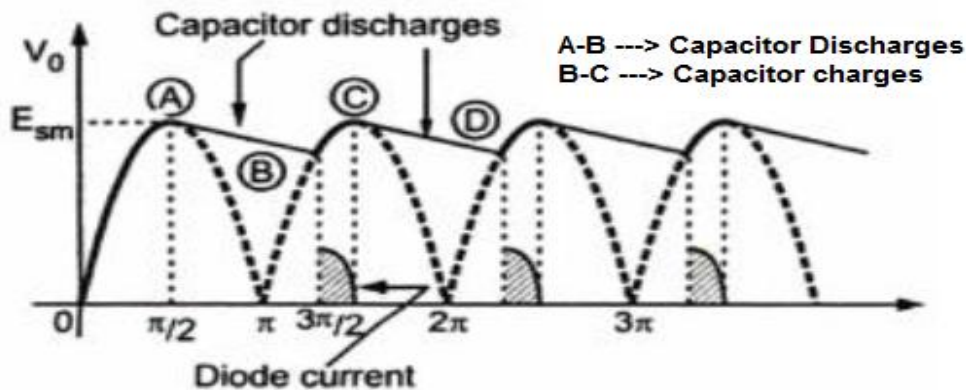

Fig. 1.40 Waveforms of Capacitor input filter with Full wave rectifier
- It discharges to point B shown in the Fig. 1.40.
- Again at point C, diode D_2 stops conducting and capacitor supplies load and starts discharging upto point D in the next quarter cycle of the rectified output voltage as shown in the Fig. 1.40.